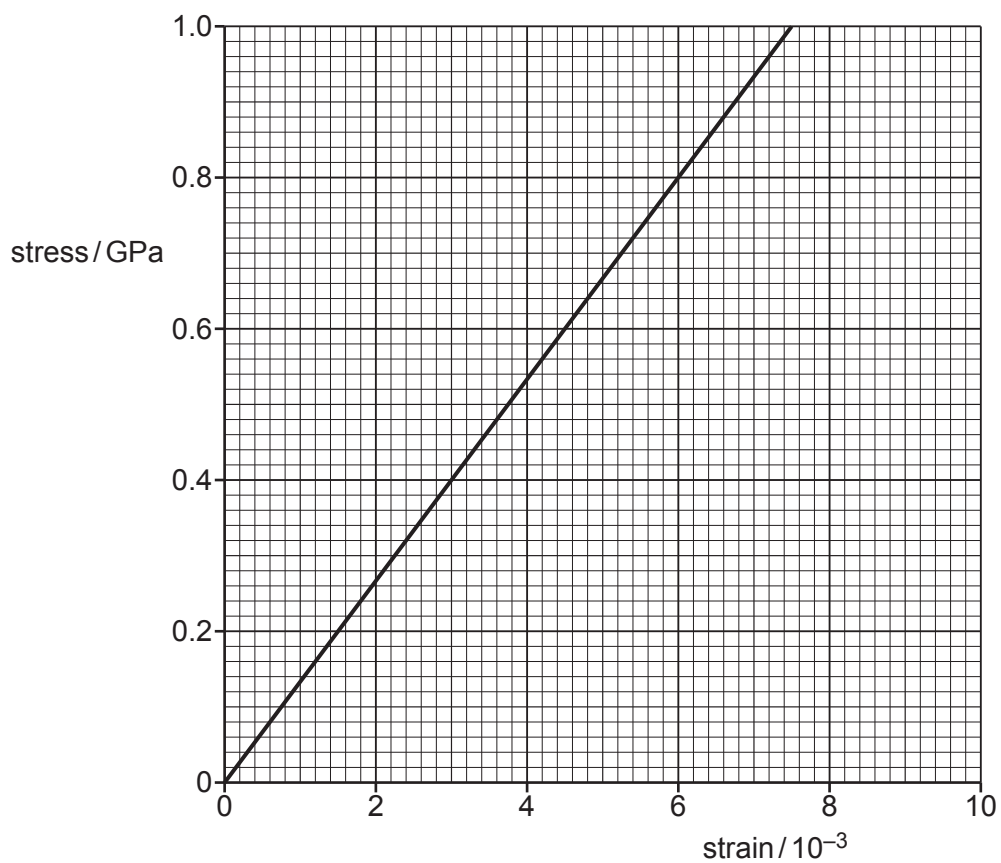

Fig. 3.2
The variation with strain of the stress for wire X is shown in Fig. 3.2.
- (i) Use Fig. 3.2 to calculate the force exerted on the wire by the model planet.
On Fig. 3.2, draw a line representing the variation with strain of the stress for Y. [2]